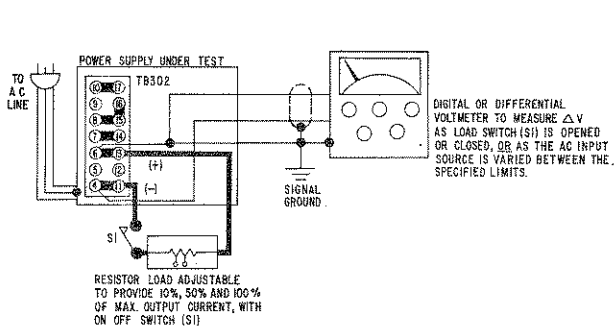

FIG. 5-1 MEASURING OUTPUT EFFECTS (VOLTAGE MODE) WITHOUT ERROR SENSING.
5-9 INTERNAL ADJUSTMENTS (Disassembly *not* required, all controls accessible through cover. Refer to FIG. 5-1.)
- The proper location of the instrument leads when measuring output effects in response to a-c input source changes or load variations is of the utmost importance. Improperly placed leads may measure voltage drop due to contact resistance and load current flow and thus lead to incorrect results. FIGS. 5-1 to 5-3 show clearly how to employ "4-terminal network techniques" when measuring output effects. The principle is very simple but important. Do not measure voltage drops due to load current.